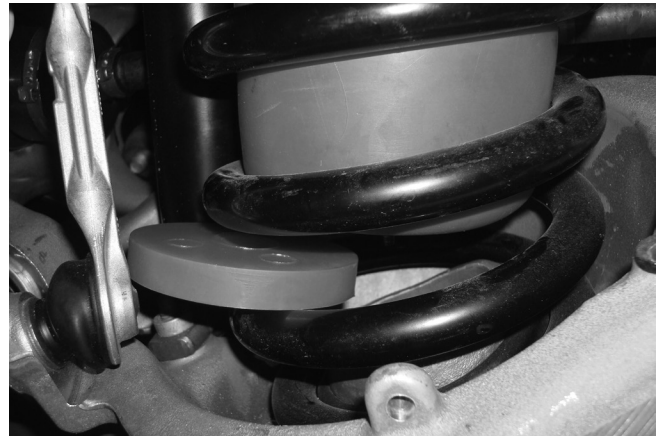

Fig. 4
- Push the air spring to the top of the coil spring and insert the protector on the bottom between the lower spring seat and air spring (Fig. 4).